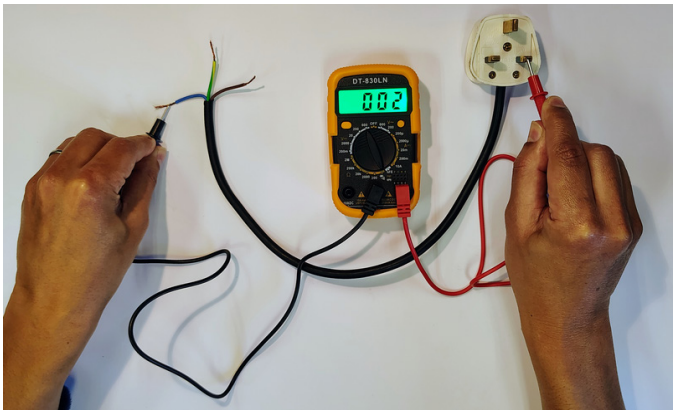

Figure 5
1. Touch one probe to the neutral pin on the plug (on the right side on the plug) as shown in **Figure 5**.